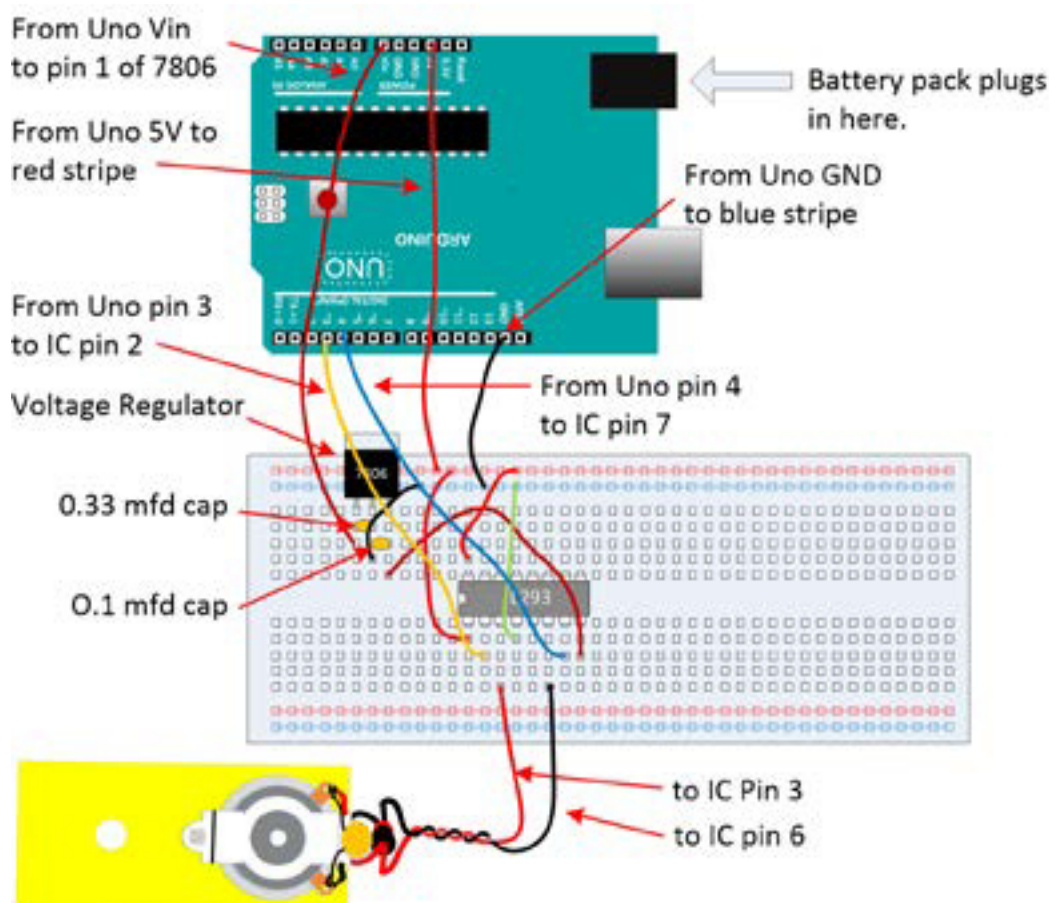

Figure 14-8. Wiring diagram for control of DC motor by Arduino™ via H-bridge
3. Connect the DC motor and the H-bridge integrated circuit to the Arduino™ as shown in Figure 14-8. Notice how the voltage regulator is used to supply the H-bridge with 6 volts.